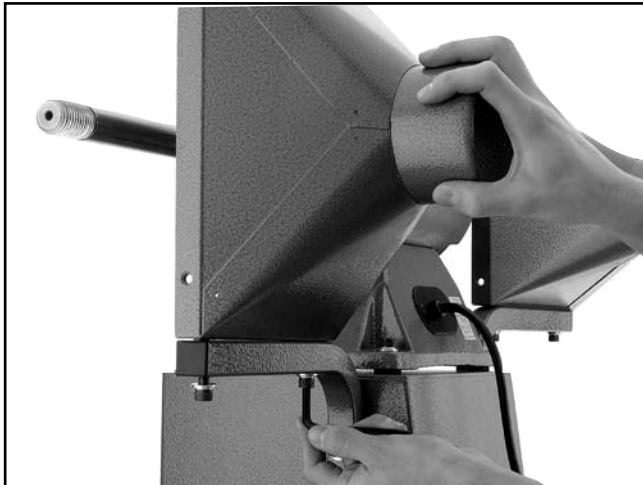

Figure 9. Attaching one of the dust hoods.
Attach the dust hoods to the brackets with (4) M8-1.25 x 40 cap screws, (4) M8 flat washers and (4) M8 lock washers (**Figure 9**).